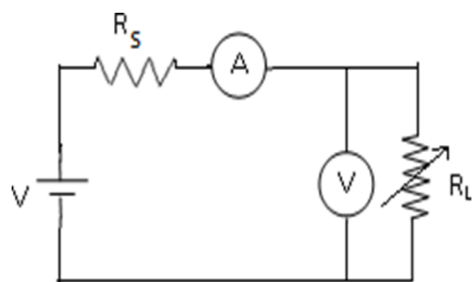

Fig . 3
1. Connect the circuit as fig3.